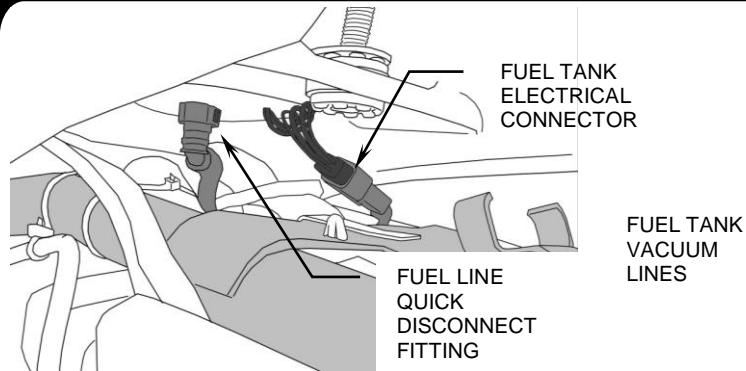
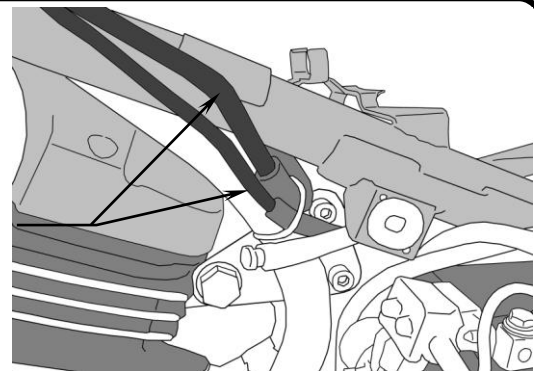

FIGURE 1
FIGURE 2
3. Prop rear of fuel tank up and disconnect quick release fuel coupling on bottom of tank, by pressing in green tabs on each side of coupler and pulling fuel coupling downward from tank. Disconnect the fuel tank electrical connector along bottom of fuel tank also, see Figure 1. Be sure to disconnect two vacuum lines from rear lower left corner of fuel tank, for tank removal, see Figure 2.